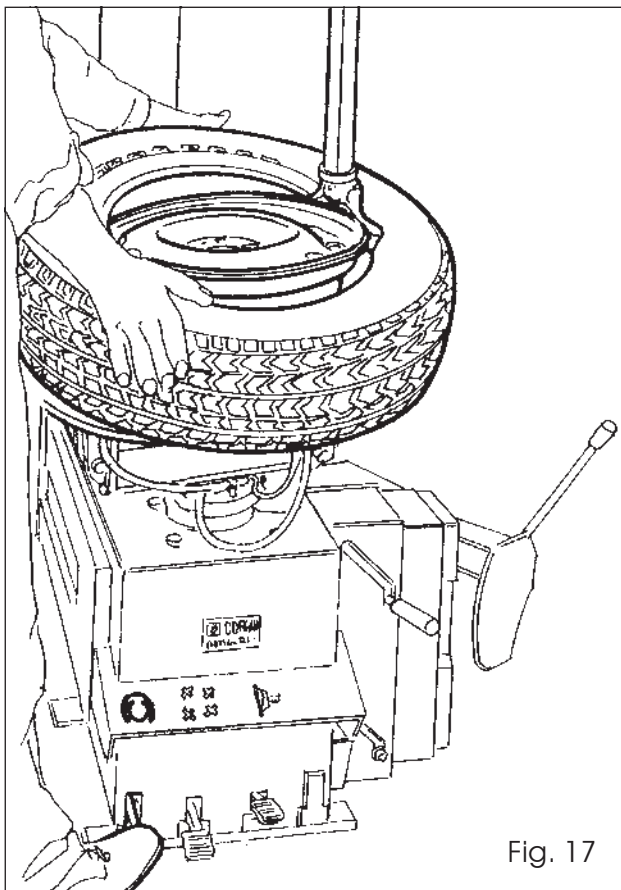

Fig. 17
- ❑ Place the tire on the rim and bring the swing arm into its operating position. Position the bottom bead (as shown in Figure 17) so that it is above the rear portion of the mount/demount head and below the front portion. Depress the table top pedal to begin clockwise rotation and thus mount the bead. Use the wheel's drop centre by pushing down on the sidewall opposite the head (as shown in Figure 17) to reduce tensional force on the bead as the wheel rotates.